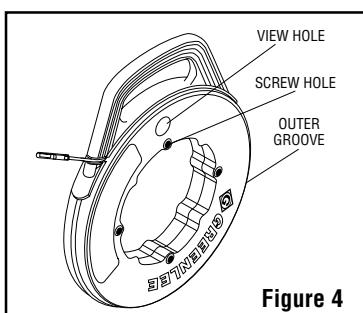

Figure 4
- Insert a screw through the screw hole nearest the view hole. Place the fish tape into the case with the anchor loop or crimp fitting over the screw. See Figure 4.